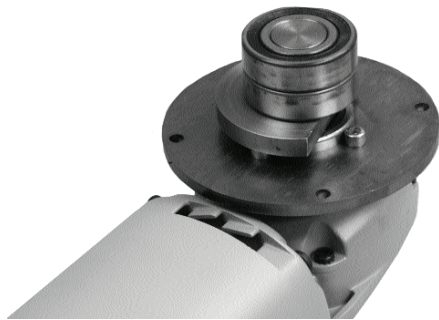

Figure 1
- Step 1) Remove four (4) lower cutting head bolts with a 7/16" wrench.
- Step 2) Remove four (4) bottom head bolts with a 7/16" wrench. This will remove the rubber ring.
- Step 3) Remove eccentric bearings by pulling off with with a bearing puller (See Figure 1). Eccentric will be exposed (See Figure 2).